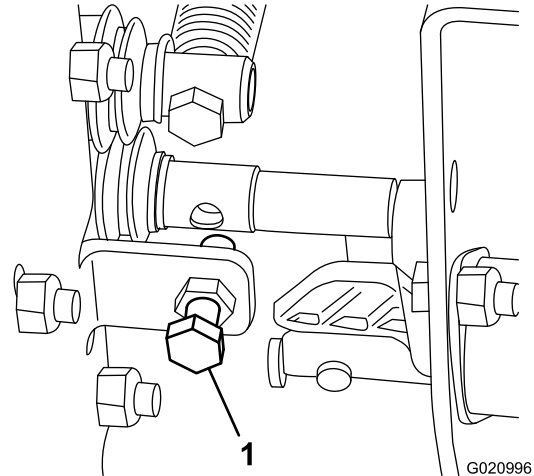

Figure 17
- If the lift speed of the machine is too slow or too fast, adjust the bolt indicated in Figure 17.